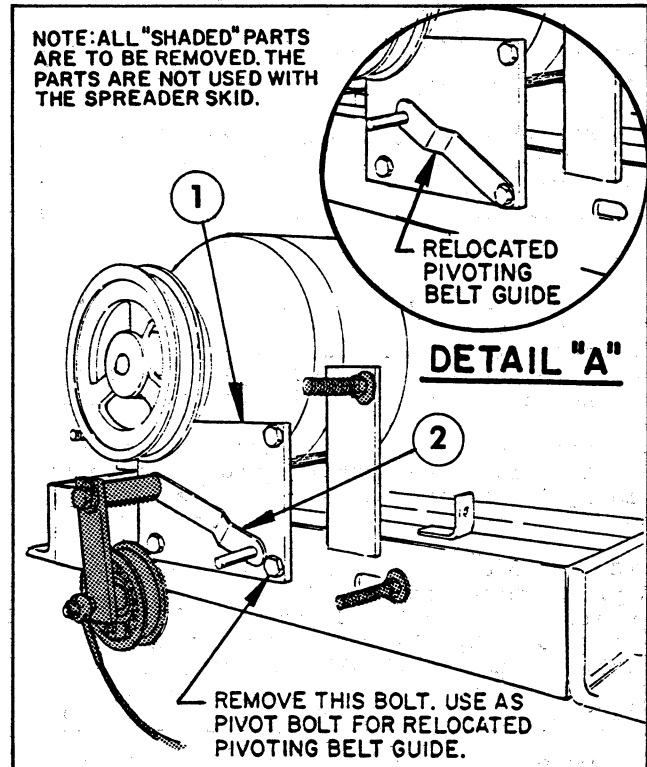

Figure 1
1. Loosen the nut on the back of the Gear Reducer Mounting Plate to remove the Pivoting Belt Guide, the Idler Pulley and Clutch Cable, as shown in Figure 1.